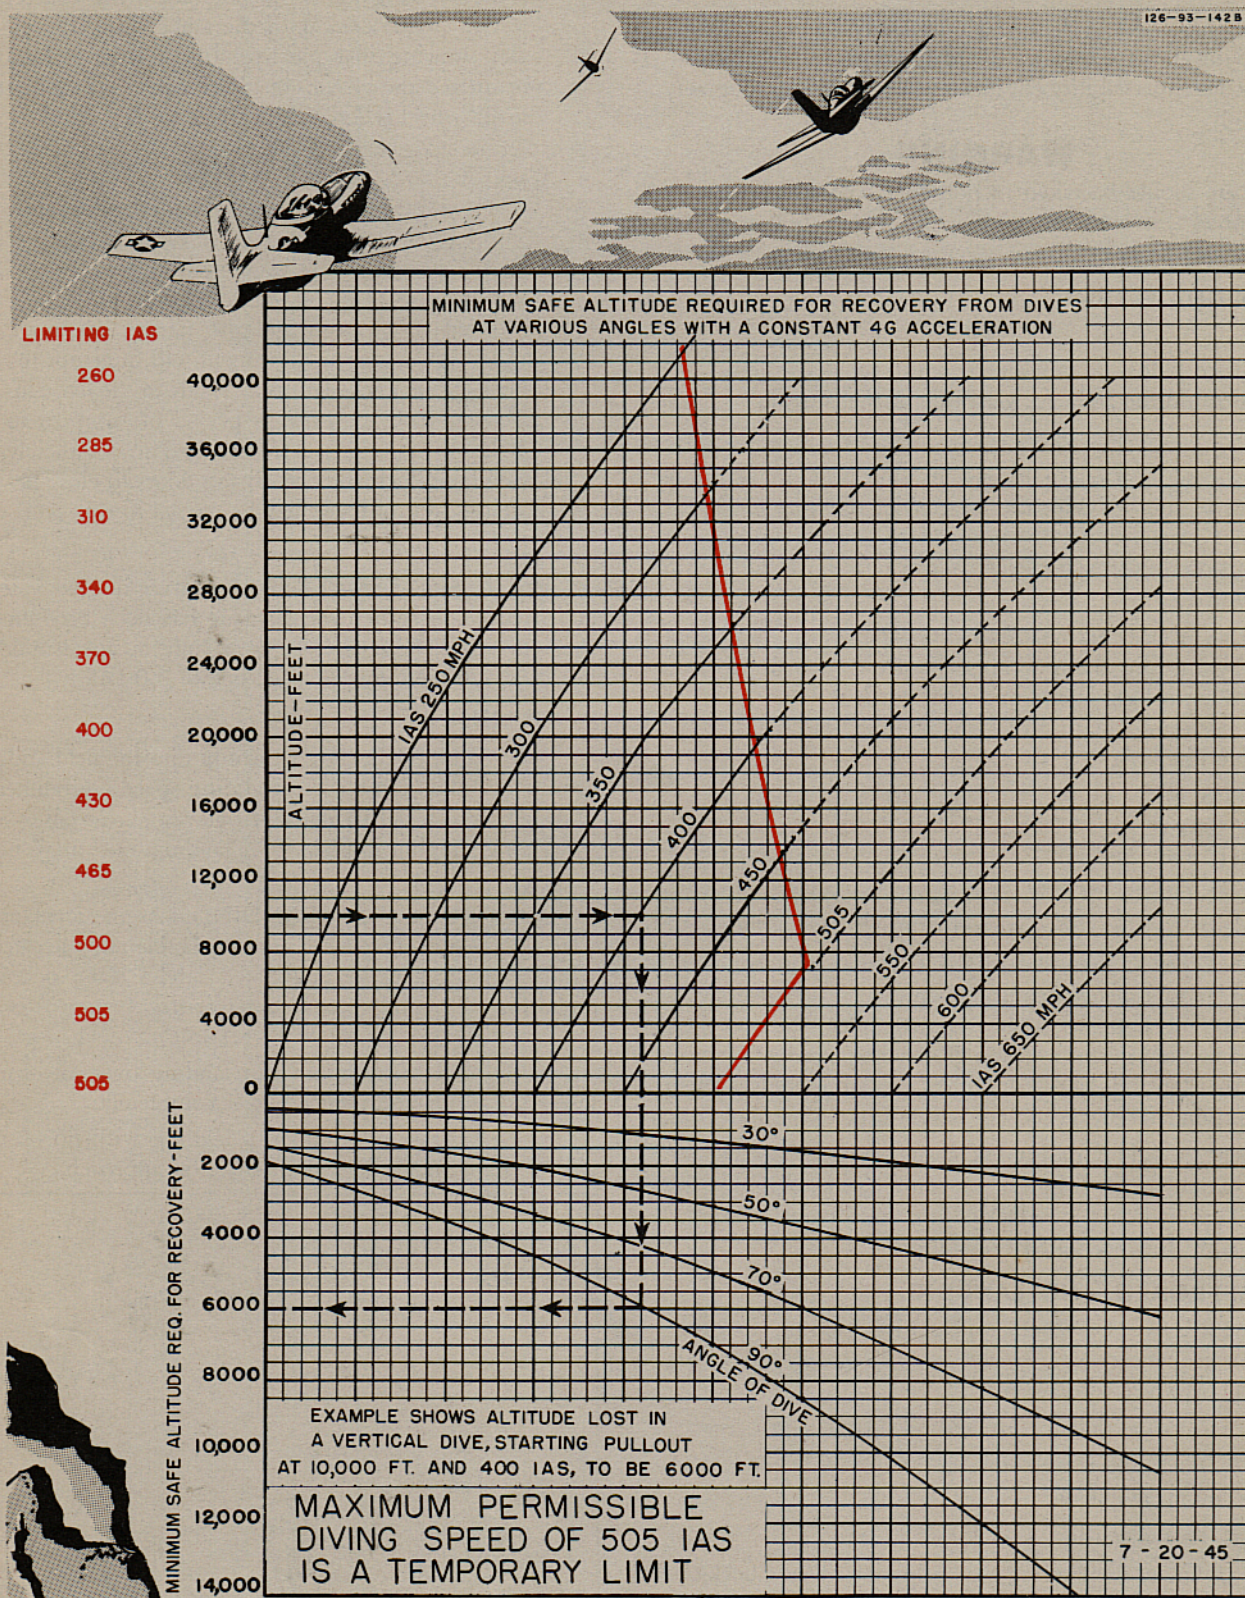

Figure 12-Diving Limitations
**b. ALTITUDE REQUIRED FOR PULL-OUT.**—Figure 12 shows the minimum safe altitude required for a pull-out from dives, with a constant 4-G acceleration.
**c. RECOVERY.**—If, through necessity or inadvertence, the diving limits shown on figure 12 are exceeded and pronounced compressibility effects are experienced, pull up very gradually.